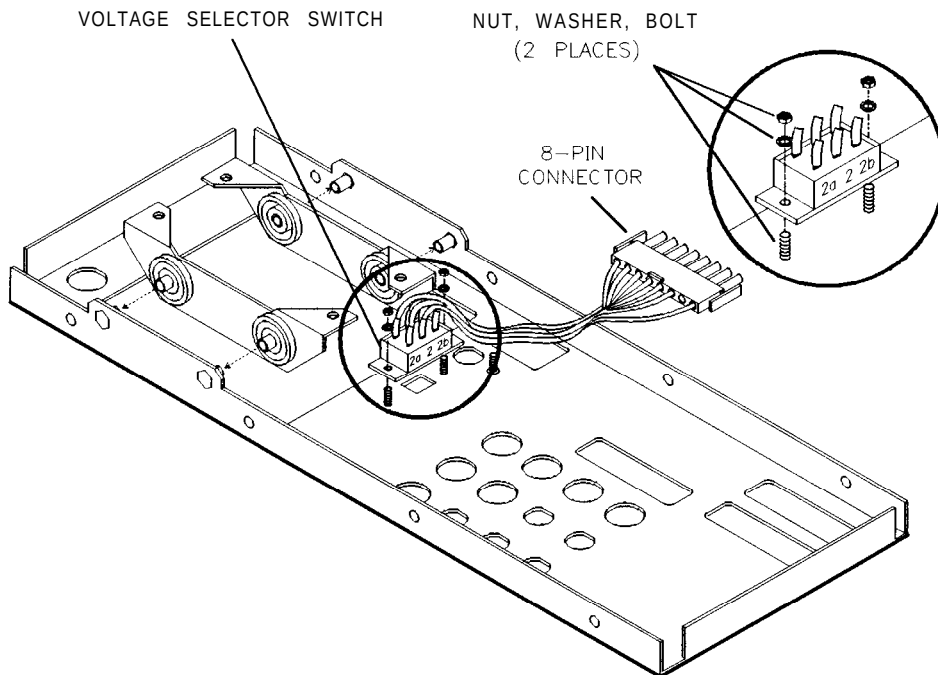

Figure 7-16. Voltage Selection Switch Removal
1. Cut the tie wraps holding the wires. Refer to Figure 7-16.